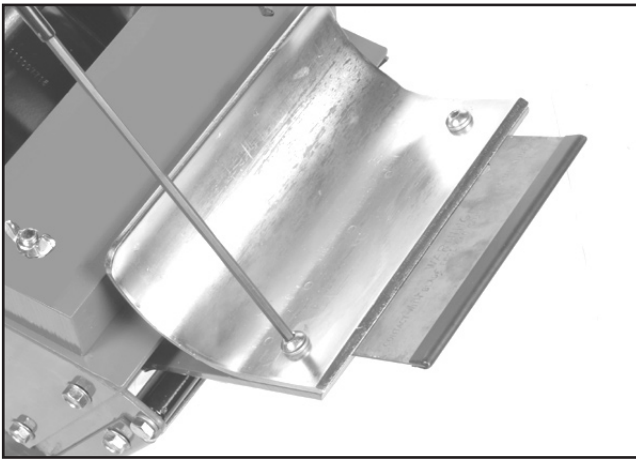

FIGURE 12
6) Two attachment configurations for blades are utilized. Narrow (less than 6 inches (152 mm) wide) blades are positioned between the two button head cap screws and thrust up against the fence plate stop. FIGURE 12. Use the T-handled Allen wrench to tighten the button head screws. Wider (greater than 6 inches (152 mm) wide) blades incorporate a slotted design which slides around the button head cap screws. The slots afford increased clamping pressure for the wider blades during the covering removal process. SLOTS ALSO MAKE IT UNNECESSARY TO REMOVE THE FENCE PLATE FROM THE EXCITER PLATE. Use the T-handled Allen wrench to tighten the button head cap screws. FIGURE 12. If the Floor Stripper is to be utilized immediately, remove the protective cover from the blade. If the Floor Stripper is not be utilized immediately, do not remove the protective covering from the blade.